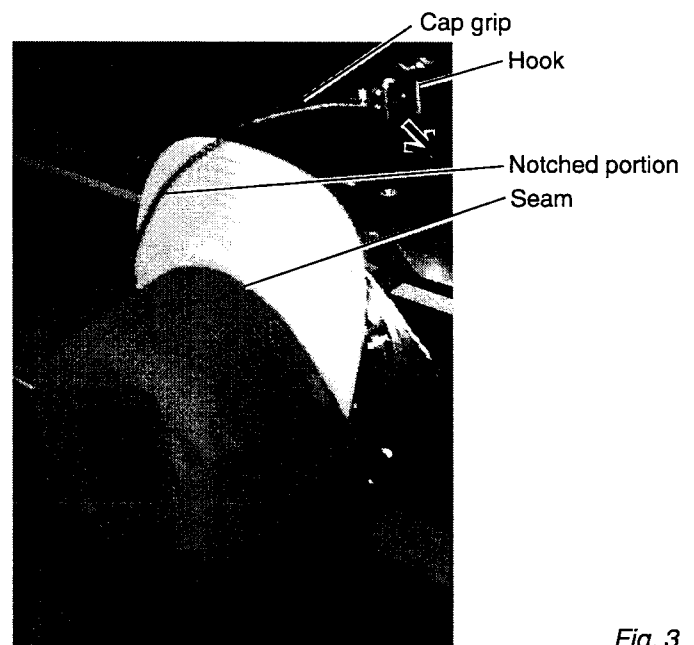

Fig. 3
Use the wing nuts for adjustment. (Fig. 3)
If the cap grip is too tight, you feel heavy when it is hooked and the grip bites into the cap too much. (Fig. 3)
5. As shown in Fig. 3, place hook so as to have visor of cap get in gap between cap grips. At this moment, set center of cap to center mark on cap hold frame so that notched portion of clamp gets into seam of visor. Close hook.